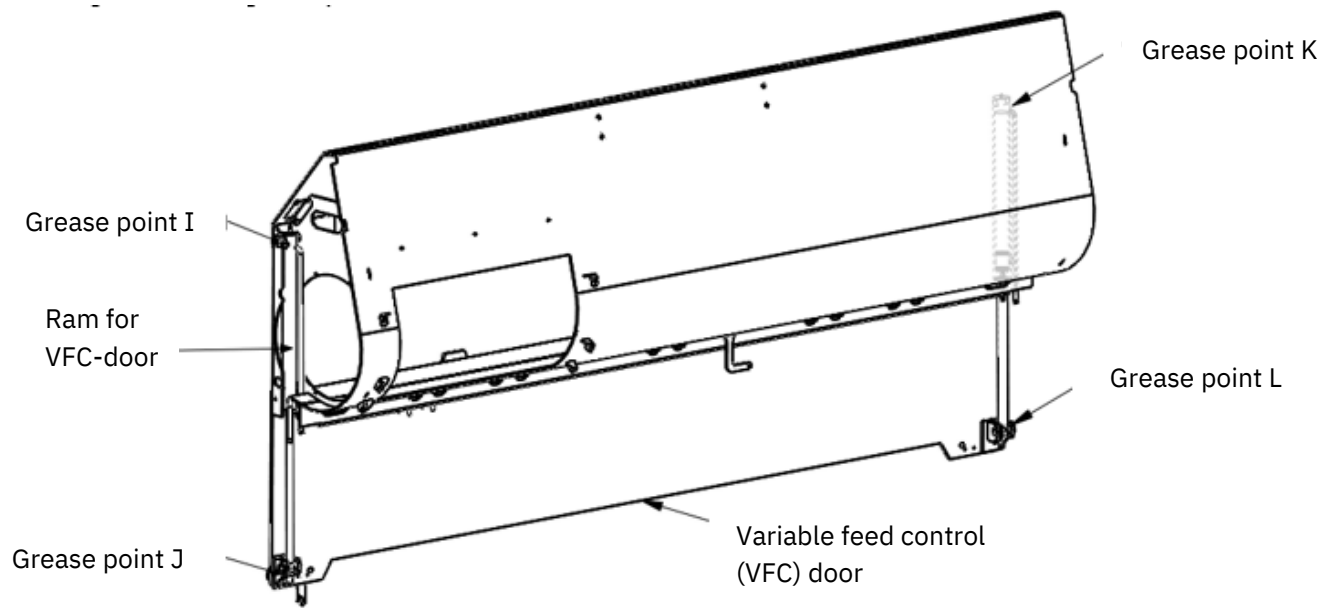

Figure 7: VFC-door grease points
- Two pins and two bushes on the VFC-door lifting rams (I, J, K and L, Figure 7)